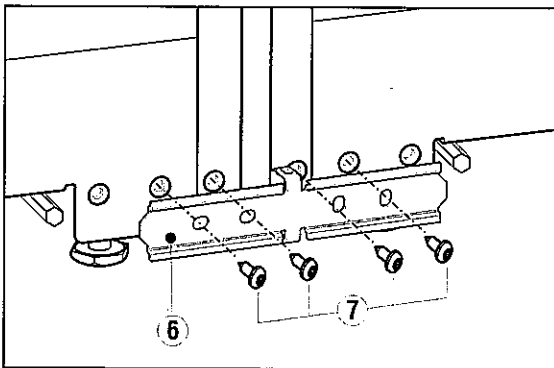
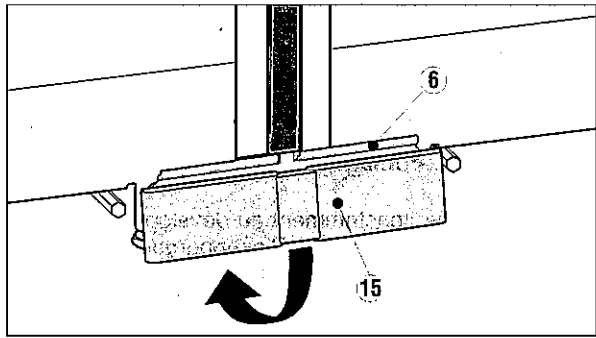

Fig. 4
Fig. 10
- ▶ Press the appliances together and realign them and, using the accompanying screws Fig. 4 (7), firmly screw on the mounting bracket Fig. 10 (6).
- ▶ Take the lower cover Fig. 10 (15) from the accessory bag and attach it to the mounting bracket Fig. 10 (6) from above. Engage the cover at the bottom.
- ▶ Re-extend the middle adjustable feet (A) until they touch the floor.